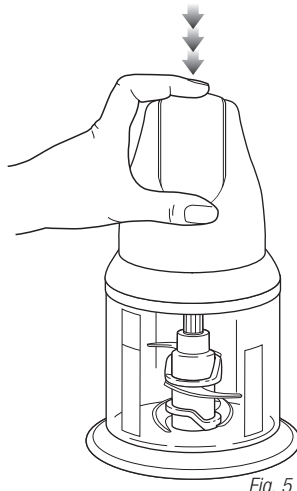

Fig. 5
- 8 To start the appliance, plug the power cord into the mains power supply. While holding the power head, press down on the paddle located on top of the power head in short intervals. **(Fig. 5)**